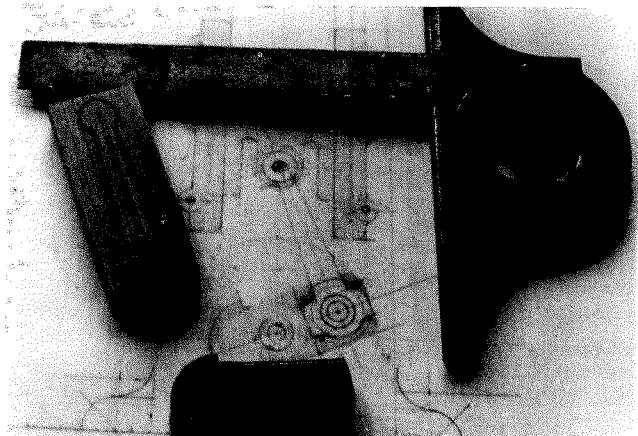

FIGURE 6-7
- 2 One piece at a time, draw the lines of the design, fix the position of the various pivot holes, and fret out the profiles on the scroll saw (Fig 6-7).